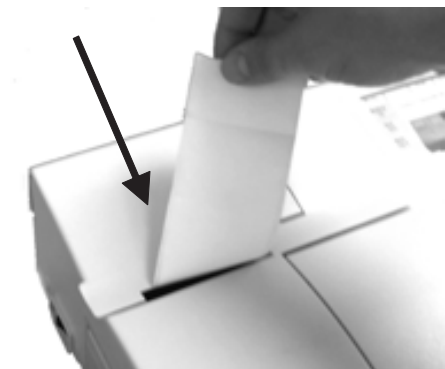

Fig. 6-31 Tear Off Excess Paper
7. Close the top cover of the analyzer and tear off any excess paper (Fig. 6-31).